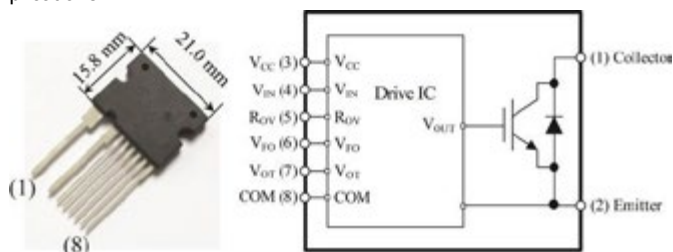

Figure 1: IPM6, Intelligent IGBT for single-ended induction heating applications.
Induction heating (IH) application has developed with requirements of higher efficiency, compactness, cost effectiveness, and reliability. Even with its simple structure, a single-ended IH system operates under high power conditions in domestic applications with various transient modes. Due to resonant operation, the IGBT suffers ~1 kV of blocking voltage and ~40 A of peak conduction current. As a consequence, the system requires robust protections for certain abnormal conditions such as surge input and high temperature. An intelligent IGBT module, so called IPM6, shown in Figure 1, provides multiple protective functions to meet market requirements and boost system reliability. The footprint of the package is same as that of the TO-247 standard package, which is popularly used in quasi-resonant IH applications.